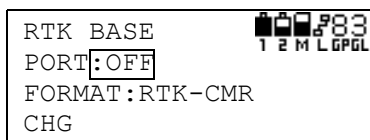

Figure 3-61. Select Port Setting
2. Press **F1** (CHG) to change the port setting, either OFF, A, B, or C (Figure 3-61). See “Selecting Parameters” on page 3-10 for details on this procedure.